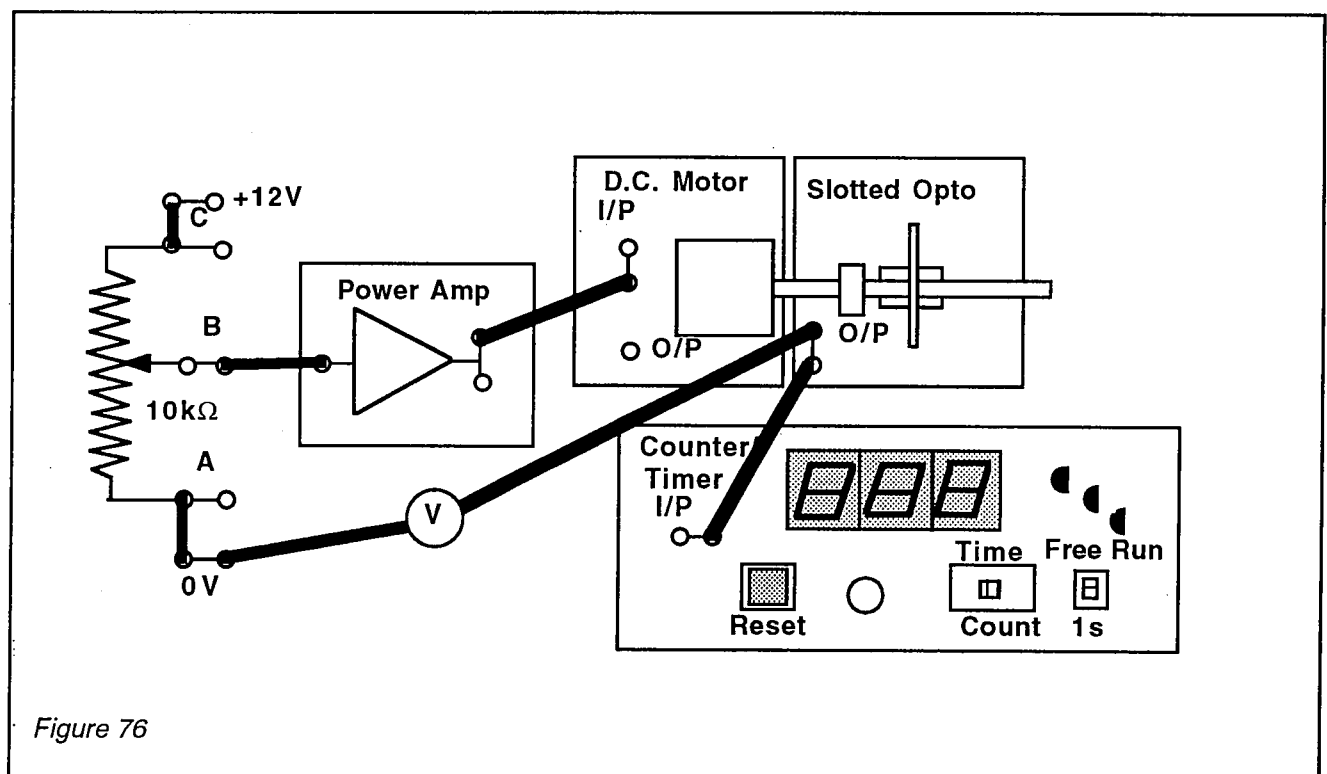

Figure 76
- Connect the circuit as shown in Fig 76 and set the 10k Ω wirewound resistor control for zero output voltage, i.e. fully counter clockwise .